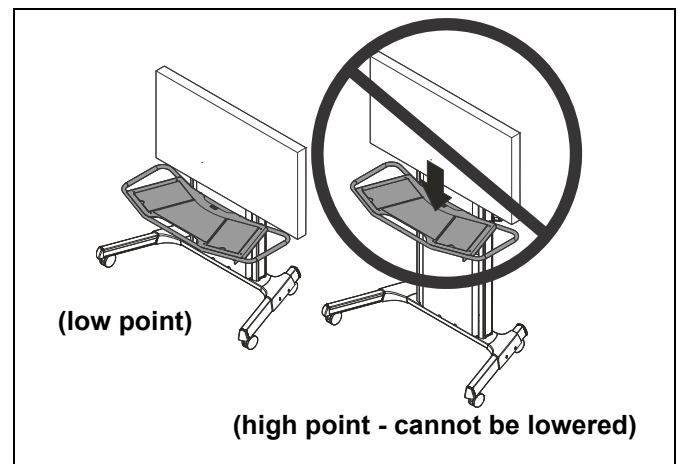

Figure 14
**IMPORTANT !** : On height-adjustable mounts (XPD1U/XFD1U), do NOT install shelf at a height where it could cause interference if the display is lowered. Shelf should be installed at a height that doesn't interfere when the display is at its lowest position. (See Figure 14)